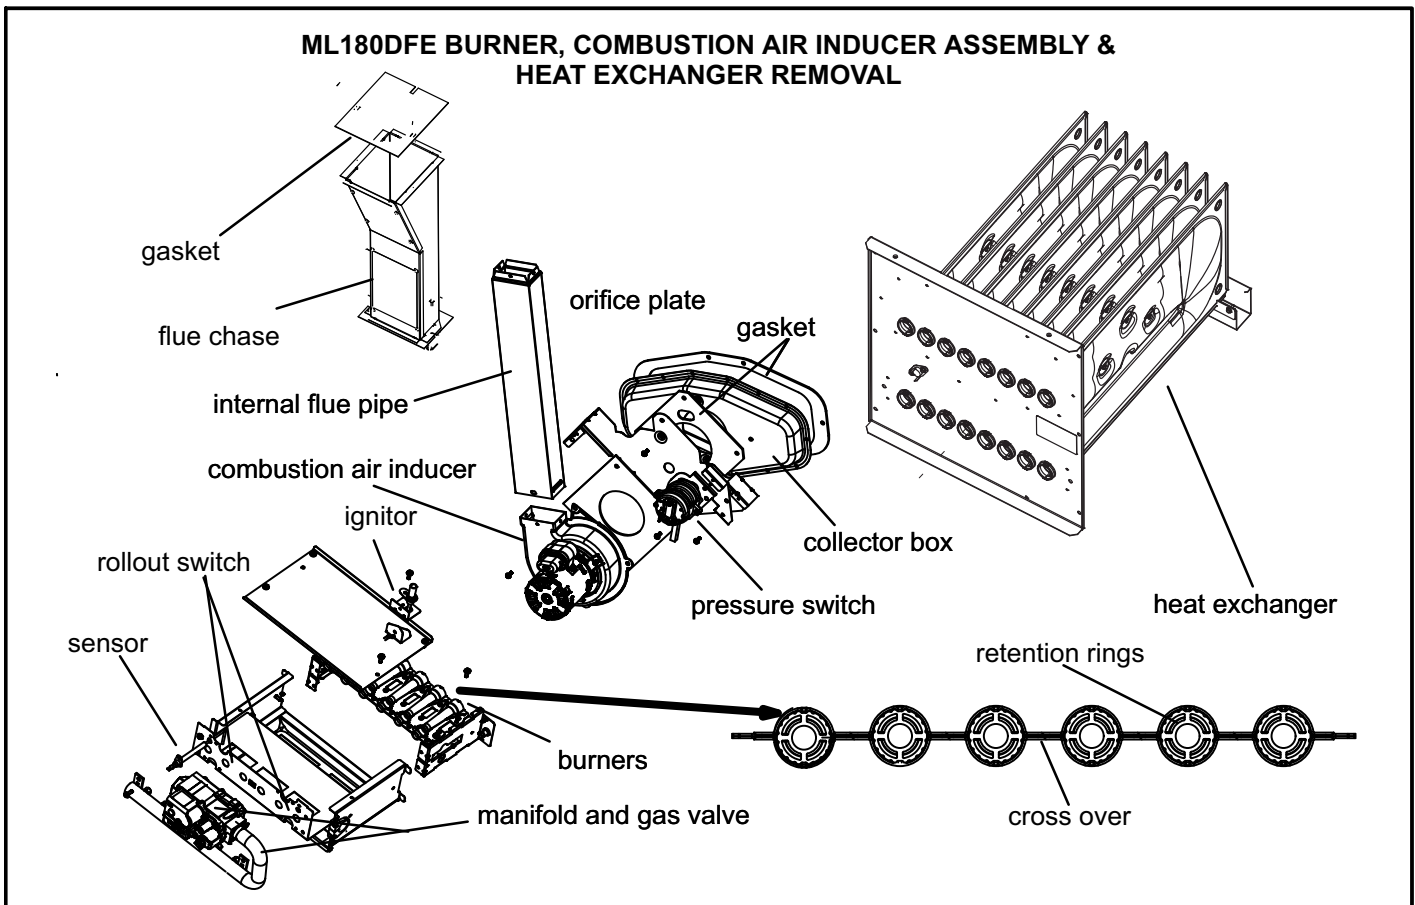

FIGURE 24
- 10 - To clean burners, run a vacuum cleaner with a soft brush attachment over the face of burners. Visually inspect inside the burners and crossovers for any blockage caused by foreign matter. Remove any blockage. Figure 24 shows burner detail.